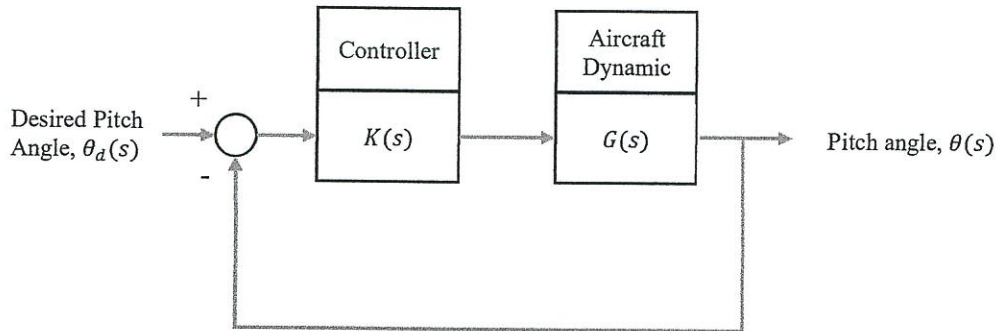

Figure Q3 Simplified block diagram for pitch angle control system.
- Q3** Consider a pitch control system as shown in **Figure Q3**, with transfer functions for each component in the control system are given as: